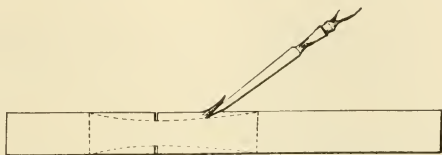

FIG. 64. — CUTTING CURVES IN HAMMER HANDLE.
10. Cutting curves. — In cutting the curves, first saw down to the curves at the deepest point of the curve and chisel down from each end towards the saw cut, as illustrated in Fig. 64. Repeat this on all sides, chiseling as close to the line as possible without cutting it; then chisel down the head to the lines marked on the end.